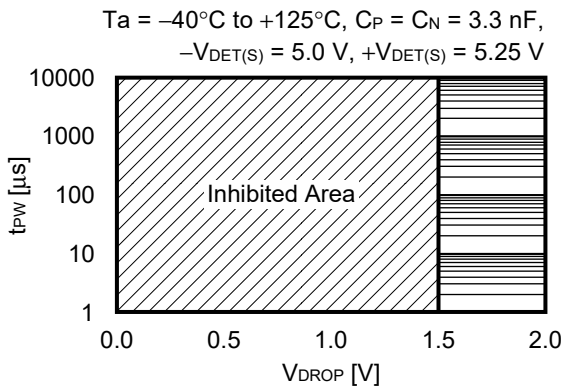
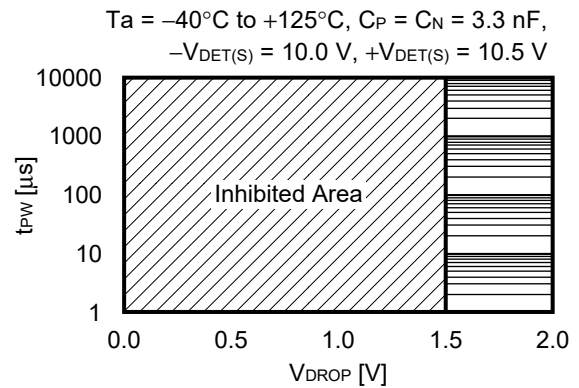

Figure 56
Figure 57
Figure 56 and **Figure 57** show the relation between pulse width (t_{PW}) and V_{DD} lower limit (V_{DROD}) where a release signal can be output after the normal release delay time has elapsed when the VDD pin (VDD detection product) instantaneously drops to the detection voltage ($-V_{DET}$) or lower and then increases to the release voltage ($+V_{DET}$) or higher during release delay time.
1. **Figure 56** and **Figure 57** show the input voltage conditions when a release signal is output after the normal release delay time has elapsed. When this is within the inhibited area, release may erroneously be executed before the delay time completes.
2. When the VDD pin voltage is within the inhibited areas shown in **Figure 56** and **Figure 57** during release delay time, input 0 V to the VDD pin then restart the S-19110 Series.